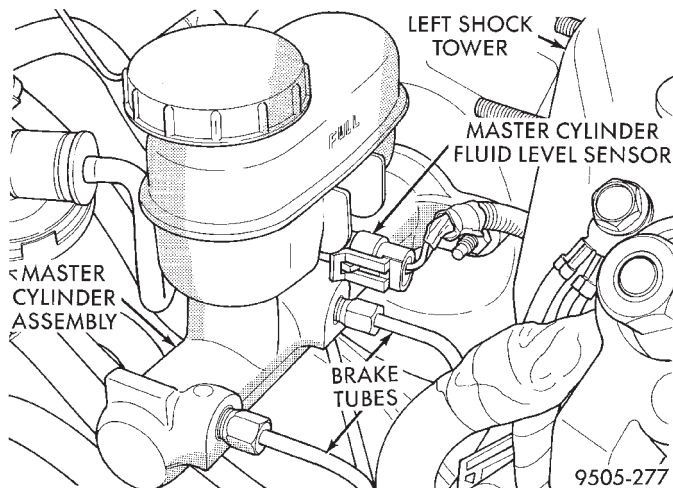

**Fig. 107 Master Cylinder Brake Fluid Level Sensor**
(8) Remove the wiring harness connector from the brake fluid level sensor in the master cylinder fluid reservoir (Fig. 107).
(12) Install the vehicle's wiring harness connector on the master cylinder brake fluid level sensor (Fig. 107).